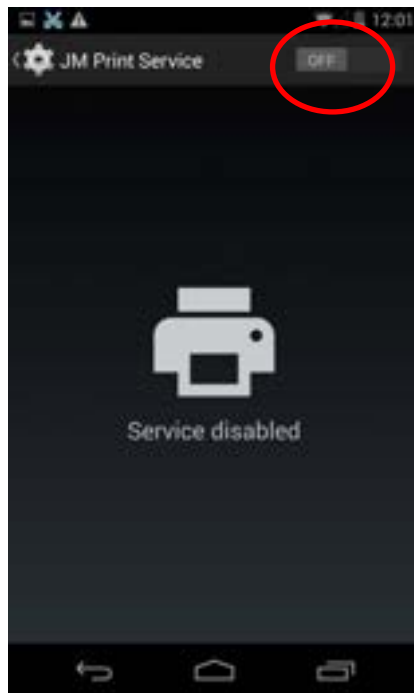

Figure 23
3.4 Switch the “JM Print Service” function from “OFF” to “ON”, as shown in Figure 23;